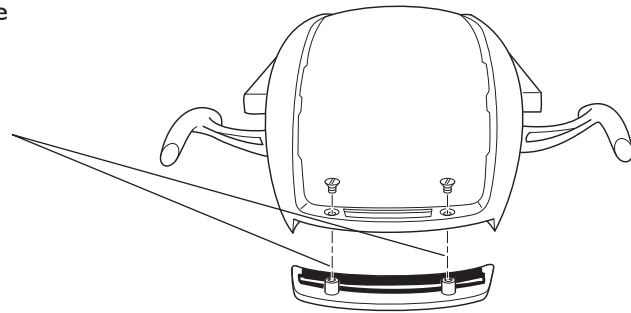
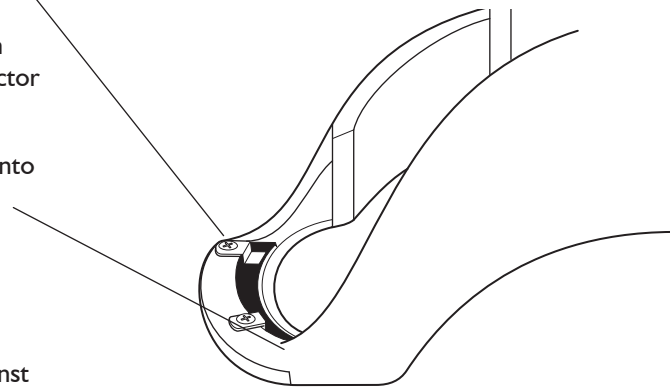

Figure 1
Figure 2
4. Tilt light reflector face down. Remove from one end only, two #6 x 1/4 Phillips truss head screws securing the reflector retaining clamp. Remove clamp and pad assembly (Figure 1 or Figure 2).